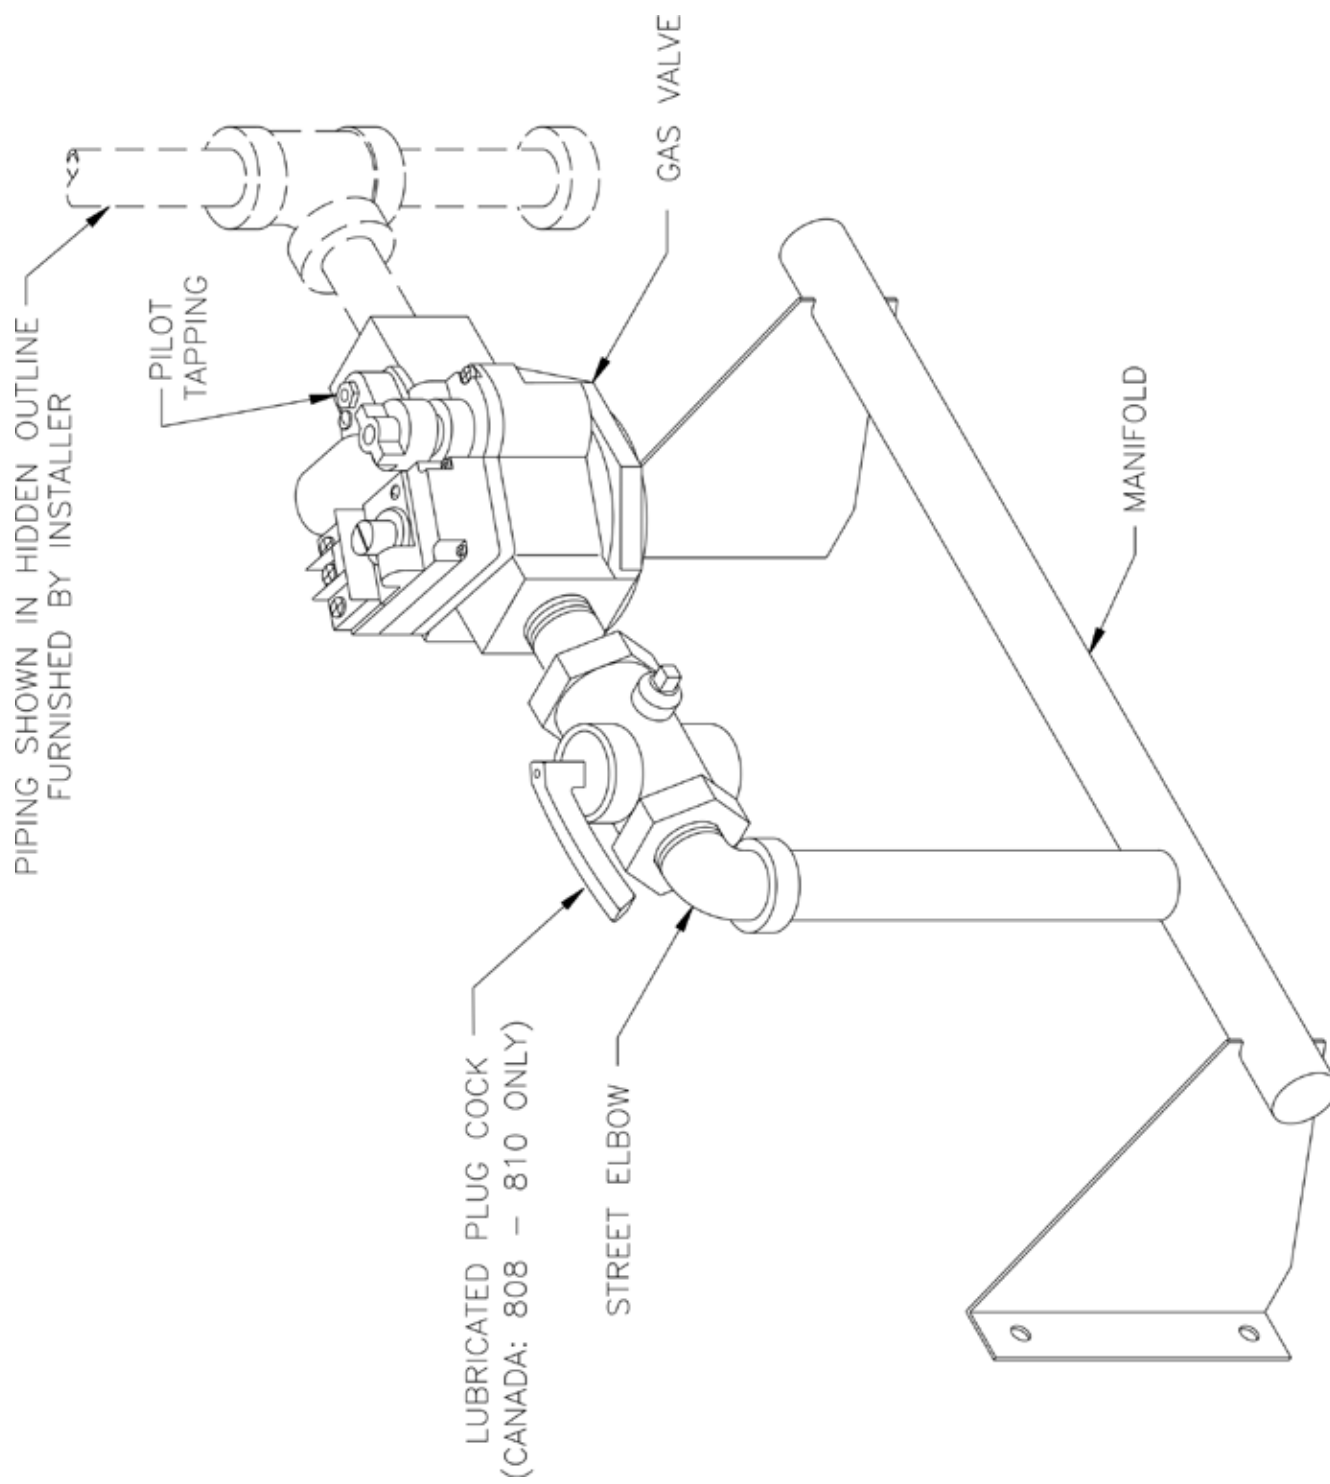

Figure 11: Main Gas Piping, Intermittent Ignition (EI)
1. Install Gas Control Assembly on Manifold. See Figure 11. Use thread (joint) compound (pipe dope) resistant to action of liquefied petroleum gas.